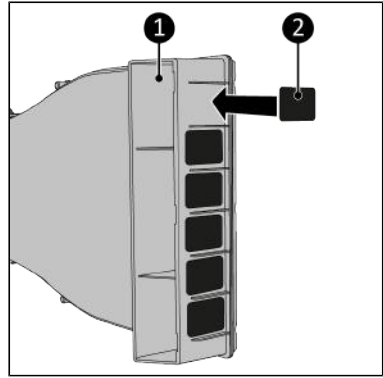

Figure 54.
3. Stick the six 30 x 40 mm anti-slip foams (Figure 54, pos. 2) on the 6 spaces on the front of the Way-out (Figure 54, pos. 1).